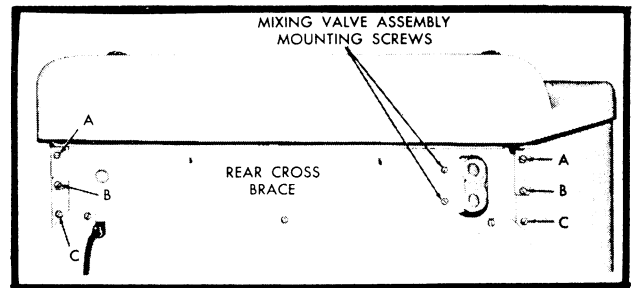
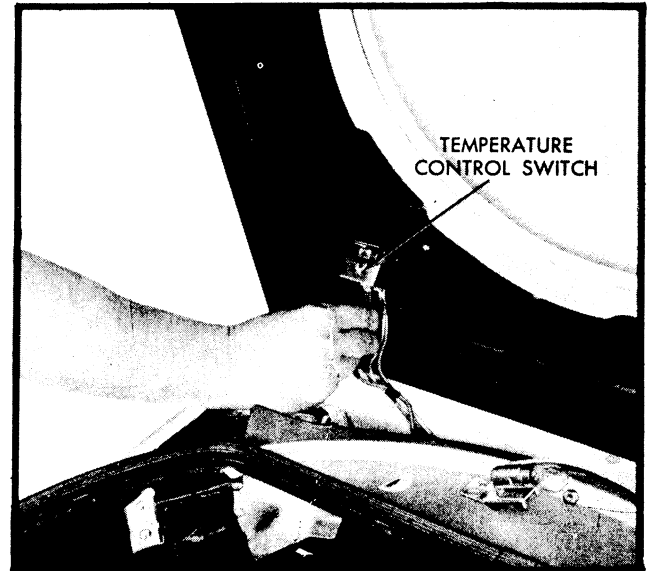

Figure 5—Upper Rear View of Washer
Figure 6—Disconnecting Wires from Temperature Switch
Next, remove the two self-tapping screws marked (A) in *Figure 5* and loosen the screws marked (B). Raise the front of the cabinet top enough to clear the timer shaft and disconnect the two wires from the water temperature switch, *Figure 6*.
The location of the screws marked (A) and (B) in *Figure 5* may vary somewhat due to model variations but all are basically the same.